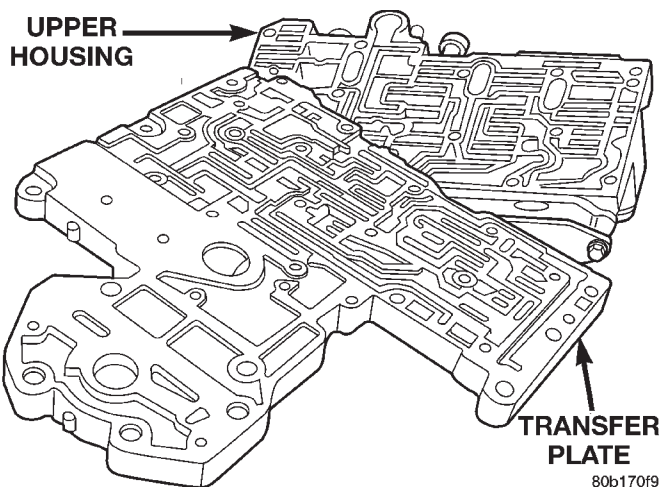

Fig. 59 Transfer Plate
(32) Remove transfer plate from upper housing (Fig. 59).